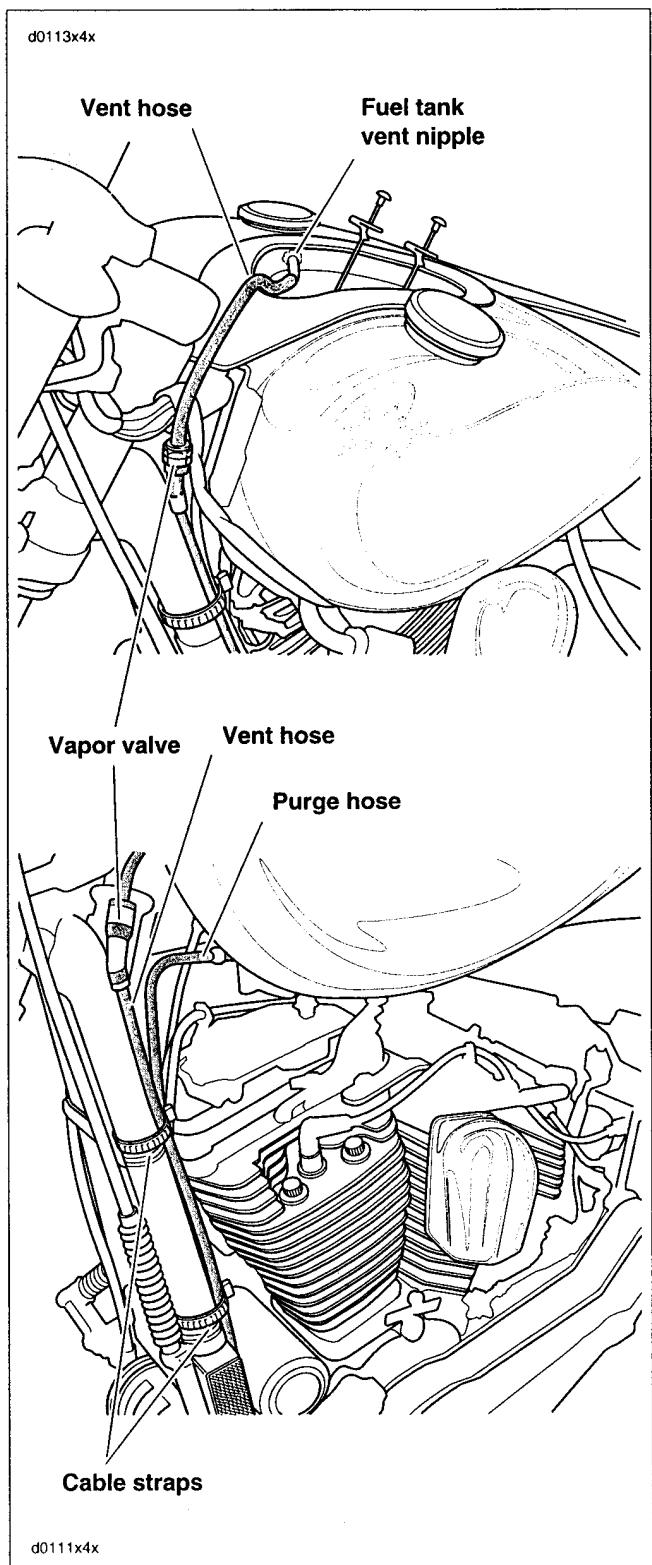

Figure 4-21. Hose Routing-Purge Hose and Vent Hose
- c. See Figure 4-21. Route over fuel tank crossover tube, to right side canister fitting. See Figure 4-20.
- b. See Figure 4-21. Route purge hose under fuel tank along backbone to left side of motorcycle. Route purge hose down frame to canister.
- a. See Figure 4-21. Attach one end of the upper fuel tank vent hose to the top (long) fitting on the vapor valve.